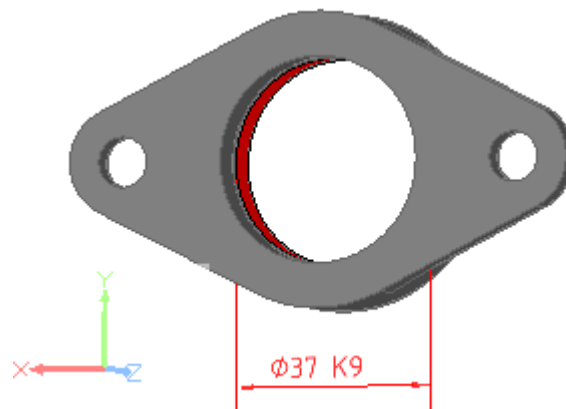

Figure 5. Size dimension with tolerance class ('K9') presentation in 3D View
- *Size dimension with tolerance class*, defined in ISO 286 (see Figure 5).